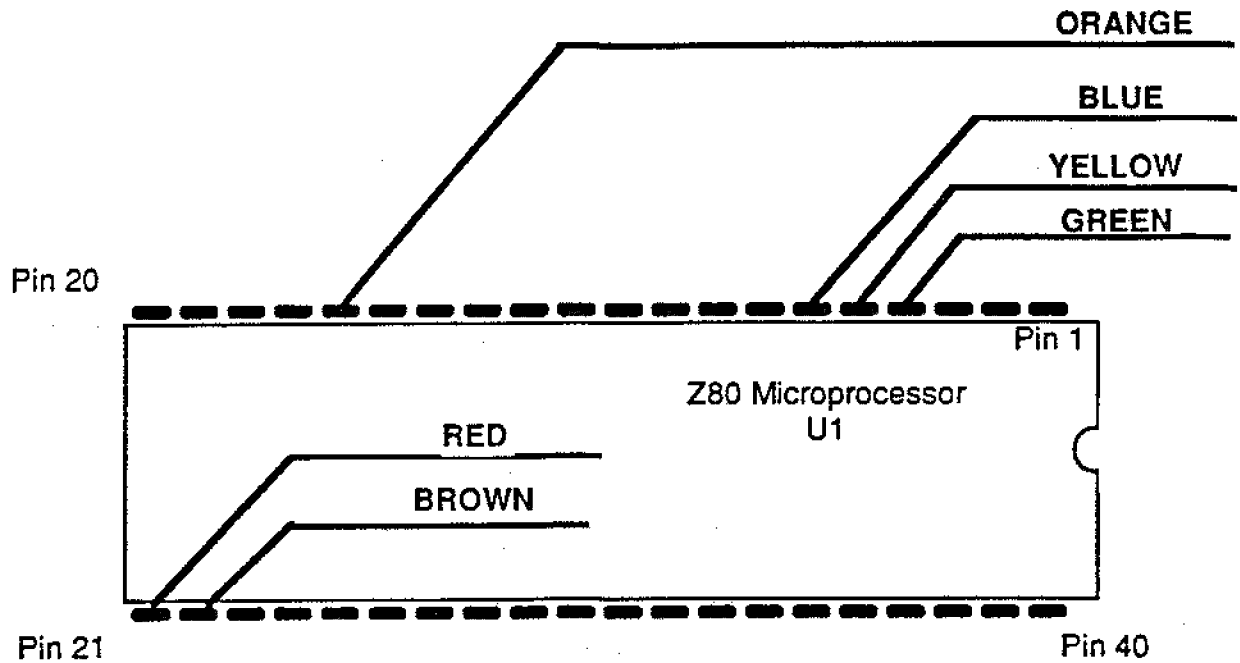

Figure 5
- J) Tin the following pins of the Z80: 4, 5, 6, 16, 21, and 22. See Fig. 5.
- L) Referring again to Figure 5, solder the six wires carefully to the pins of the Z80. Be particularly careful not to bridge across two pins with solder and/or wire.